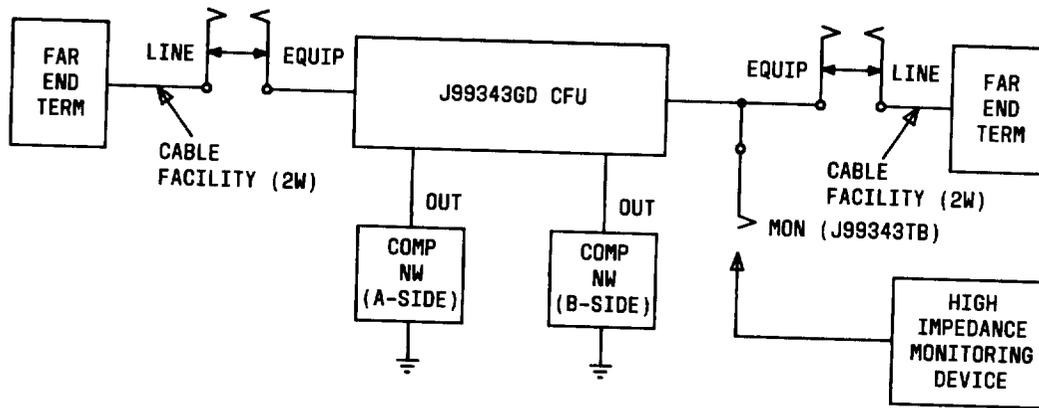

Fig. 5—Typical In Circuit Configuration for Stability Margin Tests
9.05 It is assumed that the J99343GD CFU has been adjusted to its final settings and all options are set as specified on the CLR. Idle state stability test procedures are given in Chart 6 and an example test setup is shown in Fig. 5.
5	Connect the high impedance monitoring device to the monitor jack (MON) on the B-side of the J99343TB test extender. (See Fig. 5.)
Note: With the monitoring device connected as shown in Fig. 5, no sound other than battery noise should be audible.